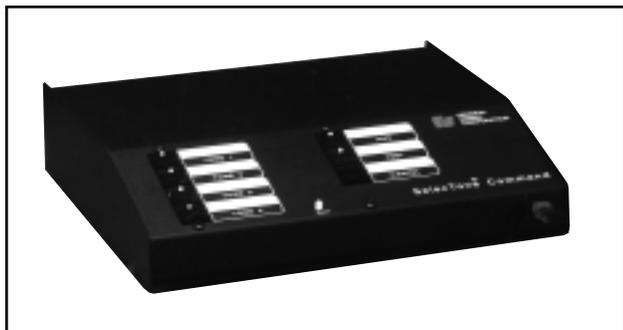

Figure 1-1. Model 300VSC-1 SelecTone® Command
The Model 300VSC SelecTone® Command (figure 1-1) is a UL listed and CSA certified central control device that is capable of generating up to four different tone signals on a line that is connected to remote speaker/amplifiers in a SelecTone System. The 300VSC can control signal lines to Federal Signal Models 300GC, 300GCX, 300X, 302GC, 302GCX, 302X, and 50GC speaker/amplifiers and to other devices designed to operate with a SelecTone system. It can also control signals to speakers designed for 25Vrms line operation. The 300VSC has a public address (PA) function so voice messages or instructions can be announced over the SelecTone system through an optional Model MSB-1 or MNC-1 Microphone. The unit can also be used to play background music generated from an external source over the SelecTone system.